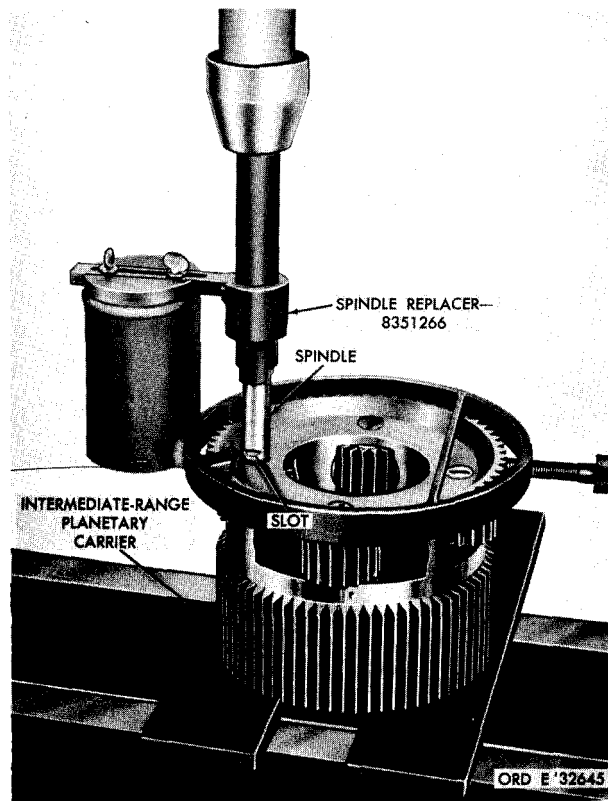

Figure 226. Installing intermediate-range planetary carrier spindle
a. Place intermediate-range planetary carrier, long-splined end down, in a press (fig. 226).
h. Install spindle replacer 8351266 on the planetary carrier and position the spindle for installation (fig. 226).
Note. Be sure that the slot on the spindle is indexed properly with its lock pin bore in the carrier (fig. 226).
8351266, install the planetary carrier spindle (fig. 226). Press in the spindle to within 0.010 inch of the carrier surface.